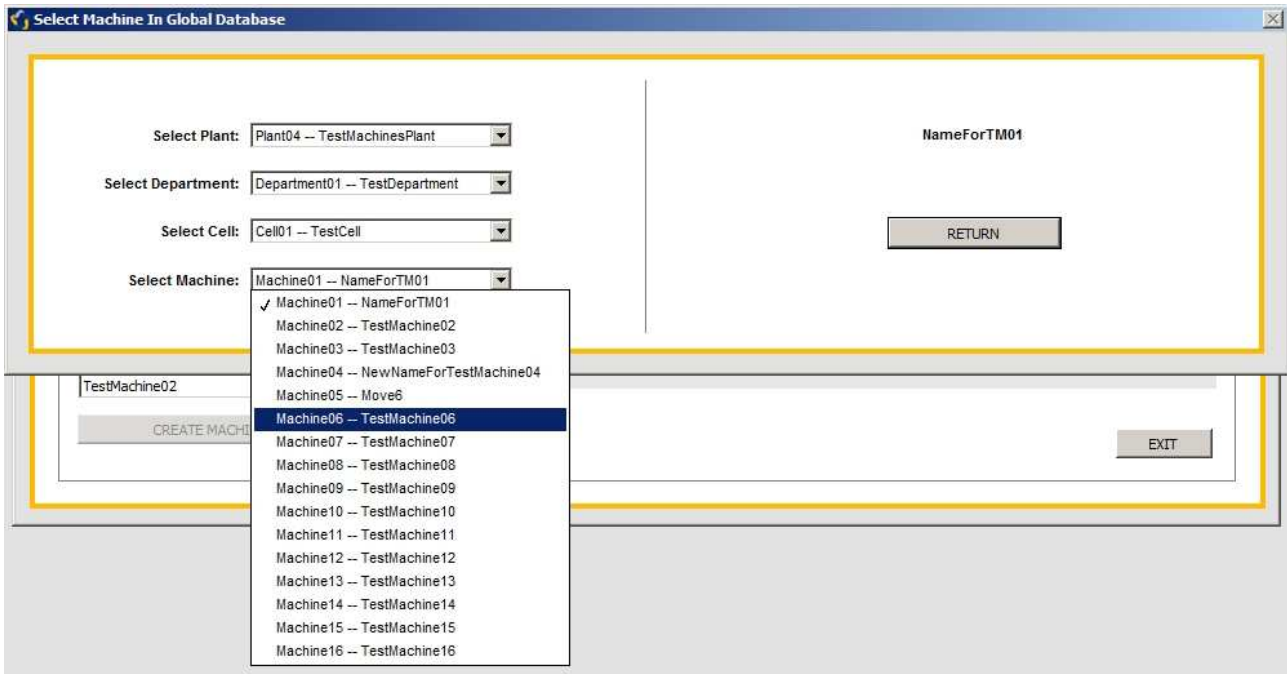

Figure 6-8 Select machine to download
4. Select available machine (Figure 6-8):